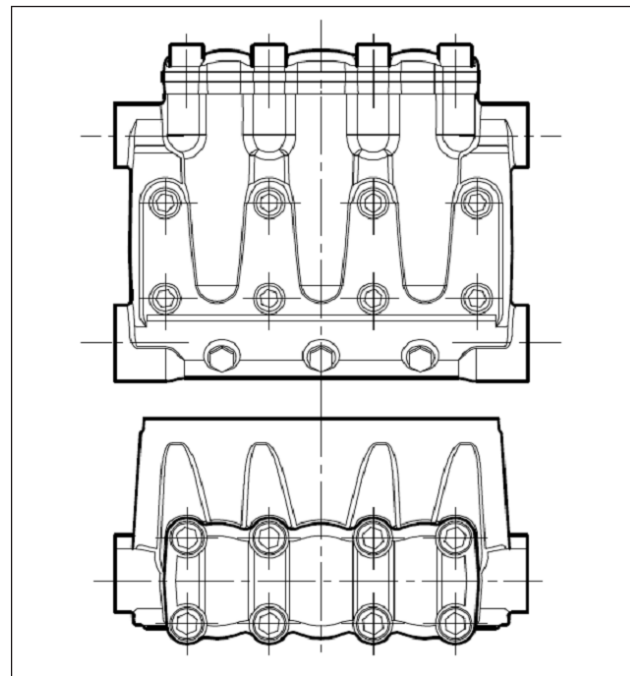

Fig. 34
** The head fixing screws exploded view pos. 39 must be tightened with a torque wrench respecting the order shown in the diagram in Fig. 34.
*** The valve cover fixing screws exploded view pos. 41 must be tightened with a torque wrench respecting the order shown in the diagram in Fig. 34.